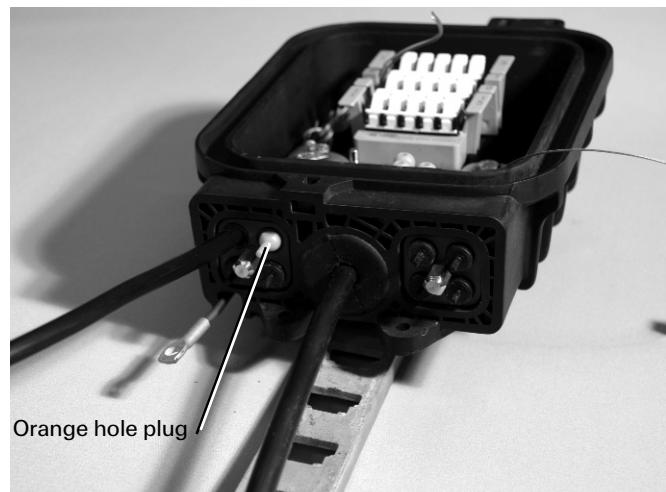

Figure 12
**Note:** If for any reason it is necessary to remove a drop cable from the closure, the port must be plugged with an orange, dumbbell-shaped hole plug. Orange hole plugs are stored in the base and should be saved and stored inside the closure for later use. The correct position of the orange hole plug is shown in Figure 12.